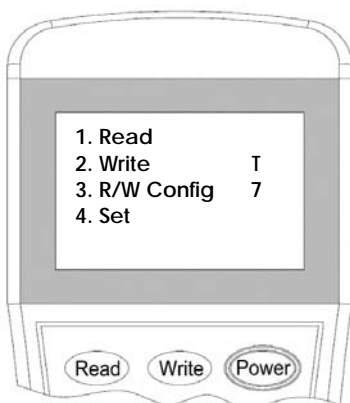

Figure 12
3. Switch-on the programmer, then press button **"3"** to enter to Configuration mode (Figure 12).